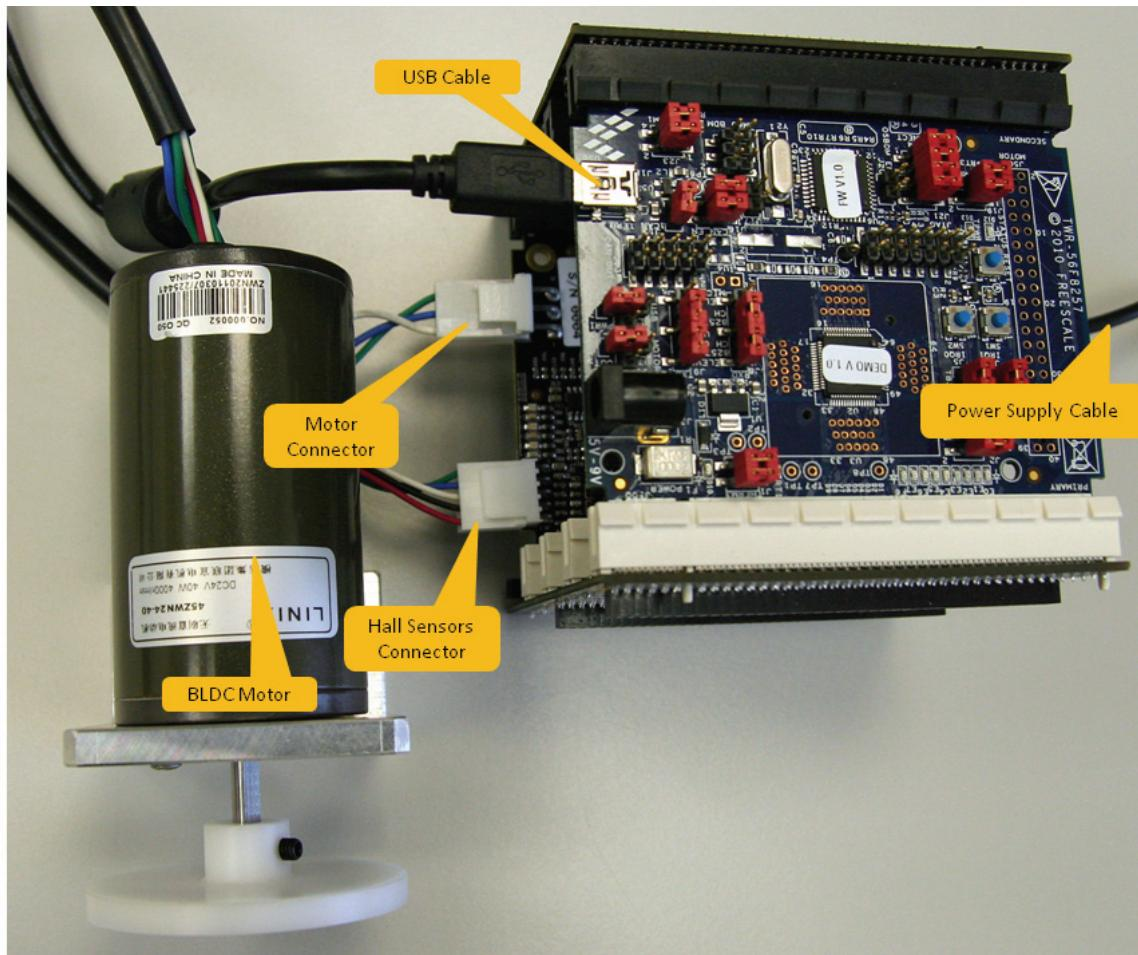

Figure 1-3 3ph.BLDC Motor Control using MC56F8257
3. Connect enclosed BLDC motor to proper board connectors, Hall sensor connector to J8 and motor phase wires to J5 (both on TWR-MC-LV3PH). See Figure 1-3 3ph.BLDC Motor Control using MC56F8257